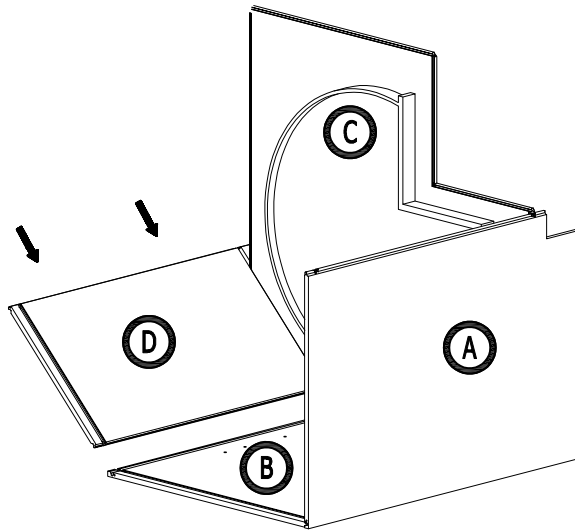

Figure 4
4. Install the back panel: Insert the back panel (E) into the groove of the side panel (A), back panel (C) and bottom panel (F). Press down until they click into place. (Figure4)